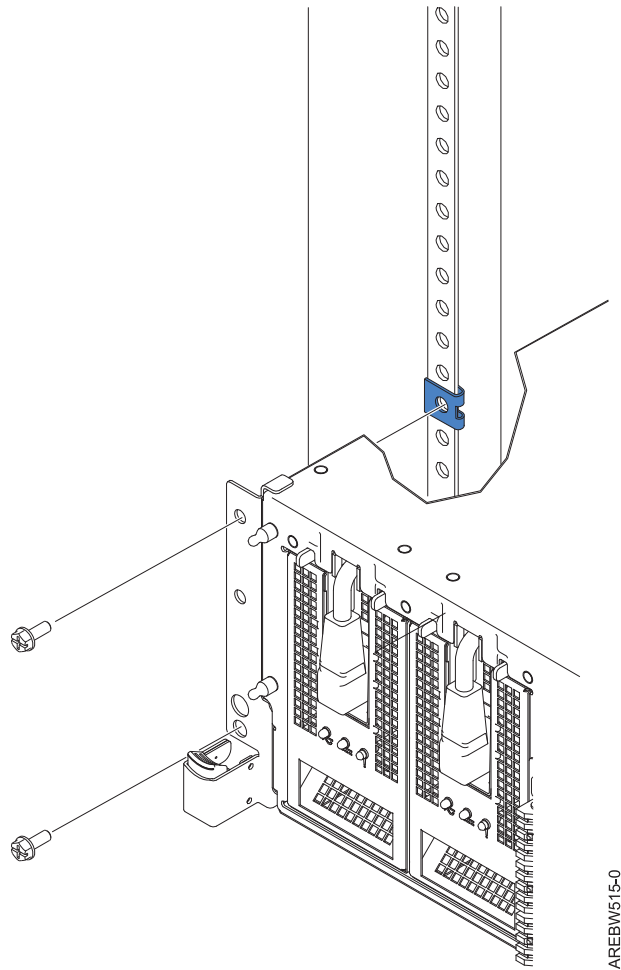

Figure 30. Secure system to rack through rack latches
11. Install and position the nut clips (shown in blue) before inserting the screws. Use the retaining screws to attach the system to the rack as shown in Figure 30 on page 36.